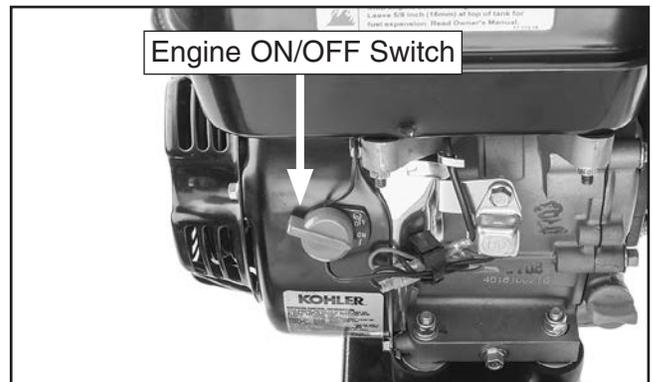

Figure 26. Engine ON/OFF switch in ON position.
4. Turn engine ON/OFF switch to ON (I) position, as shown in **Figure 26**.